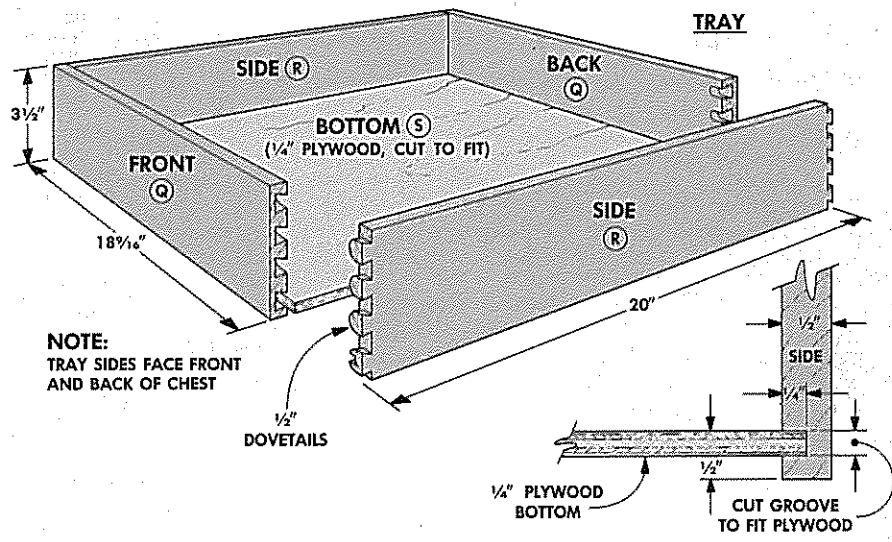

FIGURE 15
**PROFILE EDGE.** After the drawer front is cut to size, rout a shouldered round-over on all four edges, see Step 1 in Fig. 15. Then rout a 3/8" rabbet around the back.
**CUT OTHER PIECES.** When the drawer front is complete, cut the sides (U) and back (V) to size from 1/2"-thick stock.
**JOINERY.** When all the pieces are cut, rout dovetail joints on the corners (see page 22). Then cut grooves for the drawer bottom (W), and cut the bottom to fit.